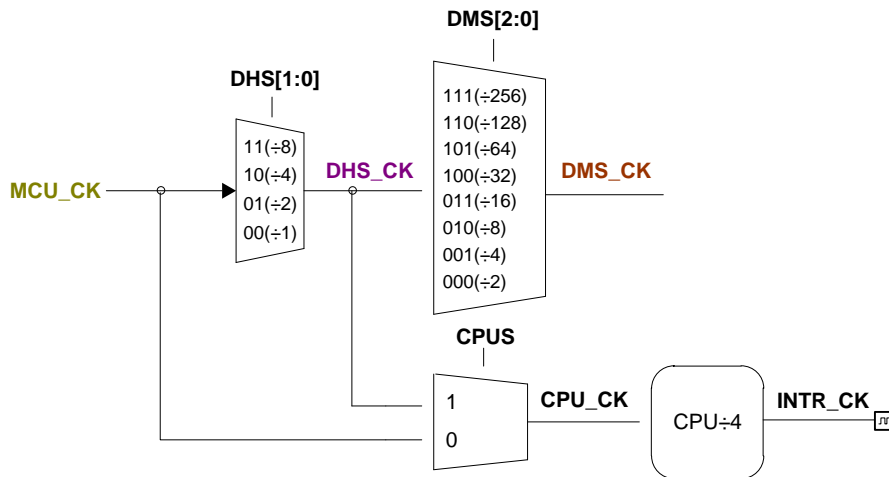

Figure 3-2 CPU and working frequencies of peripheral circuits
- The frequency and the instruction execution period of CPU_CK is as shown in Figure 3-2; Table 3-2 briefly lists the working frequencies of the CPU and the relation between which and the instruction period.